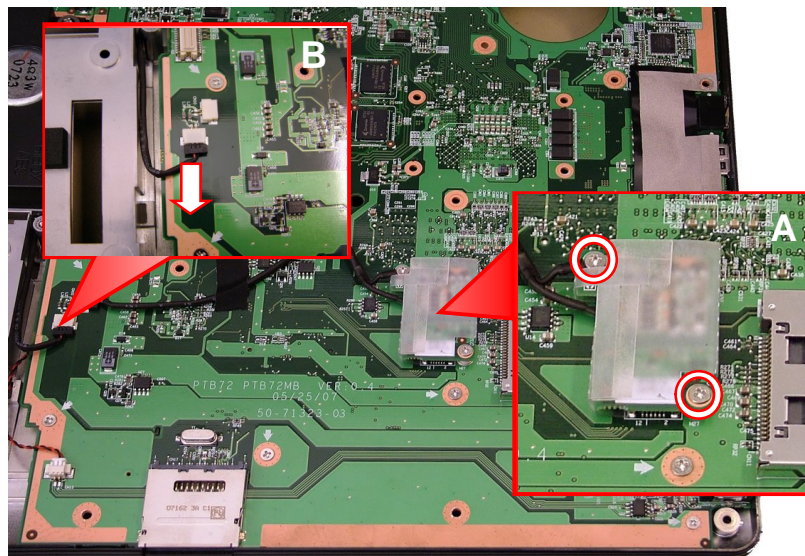

Fig. 30 Location of standby switch screw.
1. Remove the 2 screws securing the modem (see Fig. 30-A).
1. Disconnect the modem cable from the main board (see Fig. 30-B).